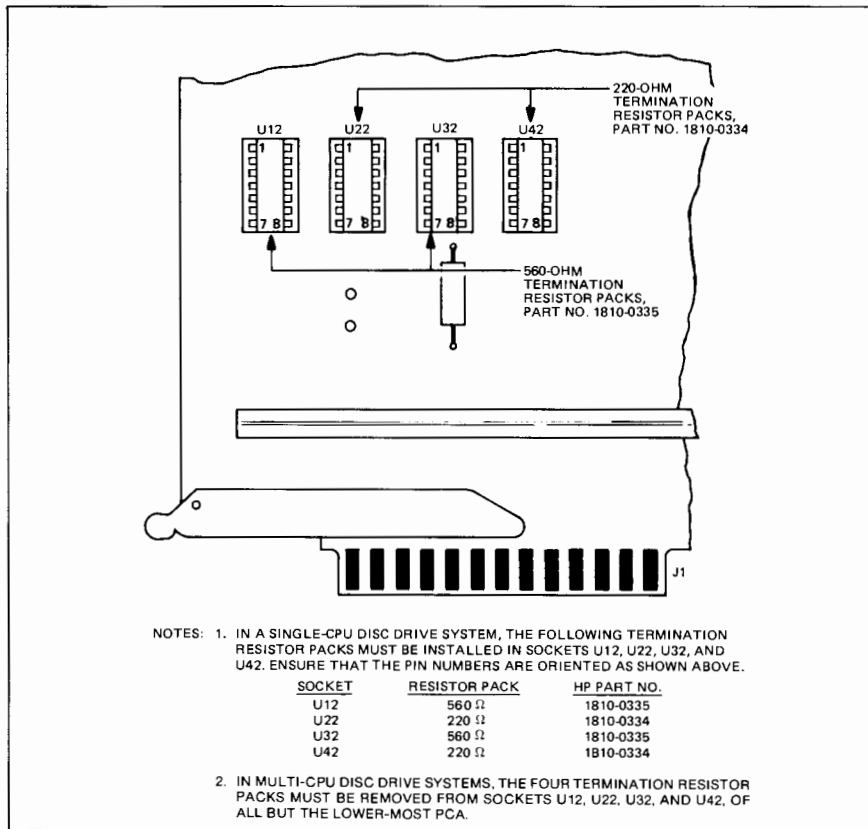

Figure 2-1. HP 12745 Bus Terminations
- B. Bus Termination -- Verify correct termination in place as shown in figure 2-1. In a multi-CPU configuration (HP 13037 Opt 050) only the lowermost PCA can have terminations in place.